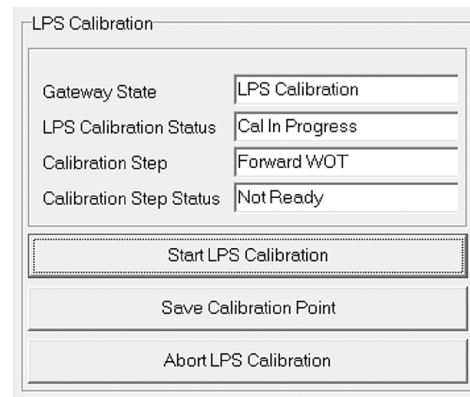

Figure B-22. LPS calibration forward WOT.
- The LPS Calibration Status field will change to read 'Cal in Progress,' and the Calibration Step field will read 'Forward WOT' as shown in figure B-22.